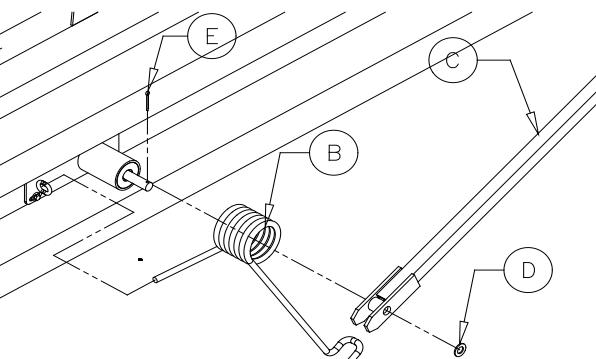

Figure 12
Slide the helical torsion spring (B), bottom pivot arm (C), and 3/4" flat washer (D) on the pivot arm end (U). Insert and lock the cotter pin (E) (see Figure 12).